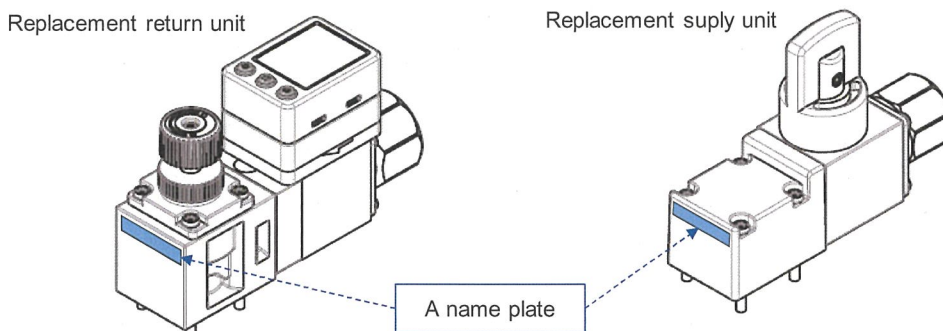

Fig 5. Replacement unit name plate pasting position
• A name plate is pasted to the replacement unit to identify the replacement part. Please refer to Fig. 5 for the pasting position.